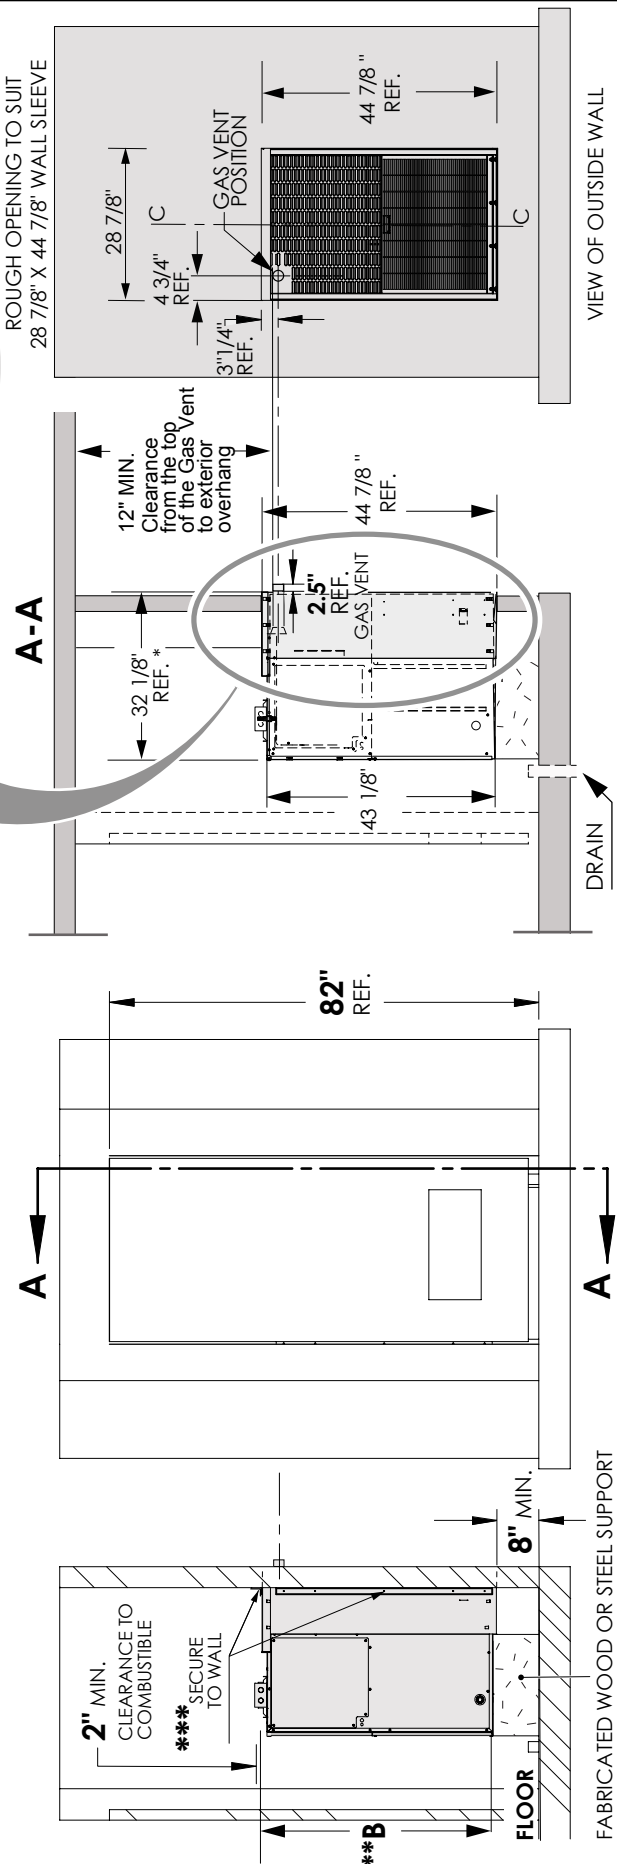

FIG. 4.2.2.B
- Do not install directly on carpeting, tile, or other combustible material other than wood flooring. The grille side of the unit should protrude minimum 1/2" but no more than 1" (maximum) from the face of the building and should not be obstructed by foreign objects. Refer to FIG. 4.2.2.B.
NOTE *** REFER TO FIGURE 4.2.2.A, PAGE 14.